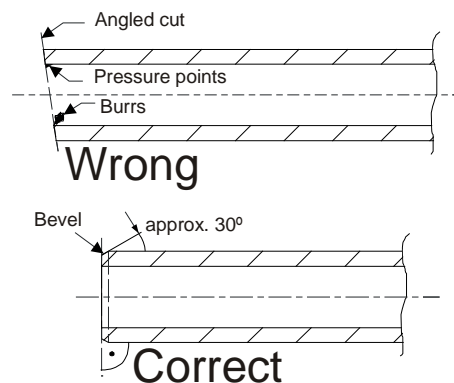

Fig. 19 Cutting the tubes
- The tubes must be cut to size using a pipe cutter. In doing so, ensure that the cut is at a right-angle to the tube axis. Remove any projecting burrs, **Fig. 19**.
- The ends of the individual tube pieces are to be bevelled slightly using a suitable tool, e.g. slightly bevel with a pipe scraper, **Fig. 19**.